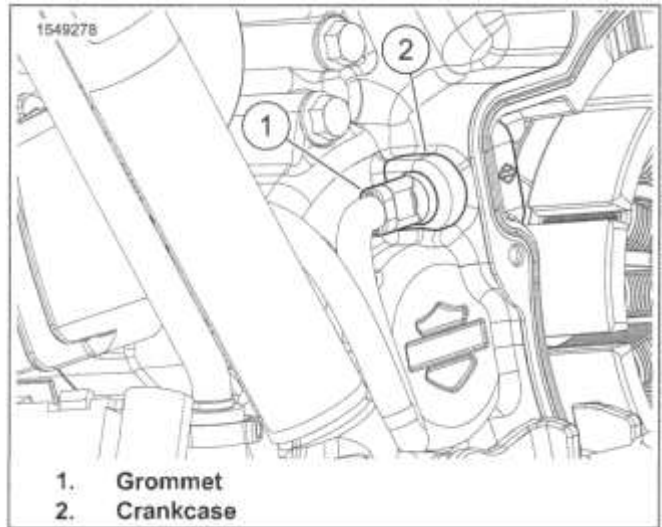

Figure 8-8. Remove Grommet From Crankcase (Typical)
5. See Figure 8-8. Remove grommet (2).
- a. Use the end of an awl or small screwdriver to move grommet (1) away from crankcase (2).